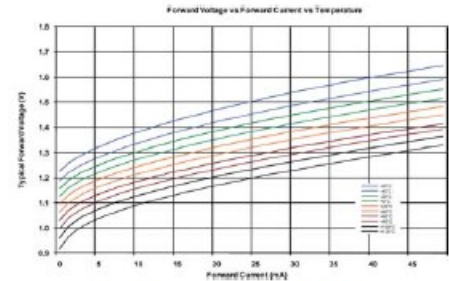
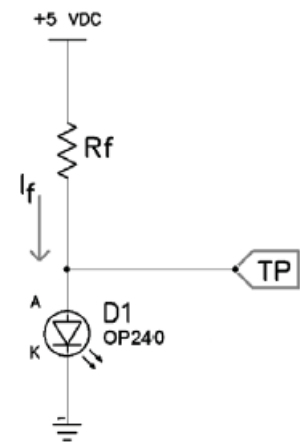

Fig. 1 Typical curve shown for GaAlAs LED
Fig. 2
This application note is intended to assist someone with little or no experience in connecting basic optoelectronic assemblies. A basic optoelectronic sensor assembly consists of two separate components. The first component that must be considered before making electrical connections is the LED, which is called the “emitter” and which will typically emit infrared light. The second is the phototransistor which is called the “sensor” or “detector” and which responds to the infrared light. To ensure good photo-coupling between the emitter and detector, it is recommended the user consider using a standard Optek assembly. The Optek OPB815WZ is a very good example of an Infrared Slotted Switch and will be used in this example. The first step when connecting the sensor assembly is to provide appropriate power to the LED which is why it is important to understand two key characteristics of the LED. These are the forward voltage (V_f) and forward current (I_f). The forward voltage is the minimum voltage required to turn on the LED. This will change depending on the desired forward current and ambient temperature. For gallium aluminum arsenide LEDs, V_f typically will be 1.2 to 1.3 volts DC @ $I_f = 20\text{mA}$, as seen in the forward current curves in Fig. 1. The forward current will determine the amount of power emitted by the LED. The datasheet will specify the range of forward current that can be safely used without causing damage to the LED. Typically, the forward current will be set at 20 mA. The forward current can be controlled by placing a current limiting resistor in line with the power supply and the LED as shown in Fig. 2.
As seen in Fig. 2, the positive voltage source will be connected through the resistor to the anode (A) while the cathode (K) is connected directly to ground. Alternatively, the voltage source can be connected directly to the anode, and the cathode can be connected through the resistor to ground. The anode can be easily identified on the LED as it is usually the longer of the two leads. Or, in the case of an Optek assembly with wires such as the OPB815WZ, the anode will typically be the red wire and the cathode will be the black wire. Before making connections, verify the pin outs by checking the data sheet of the particular LED or assembly that you are using. To verify the connections, measure the voltage at TP to ground and confirm it is 1.3 V. If it measures 5 V, the LED is open or backwards, or there is a wiring problem. If it measures 0 V, the LED is shorted or there is a wiring problem.